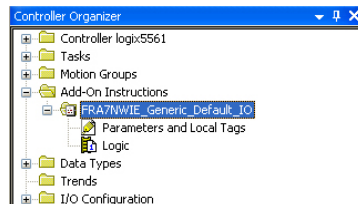

Figure 88: Generic Default IO Add-On Instruction
- 2) Right click on "Add-On Instructions" in the controller organizer view and select "Import Add-On Instruction". Browse and import the generic default I/O add-on instruction. Refer to Figure 88.